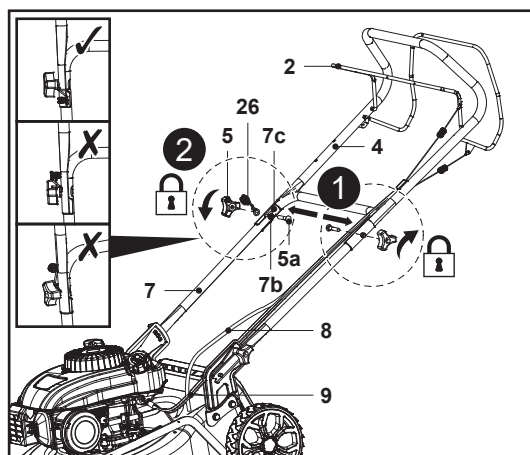

Fig. 2
1. Align the mounting holes of the upper handle bar (4), the sleeve (7c) and the lower handle bar (7). Ensure that the upper handle bar (4) with the brake lever (2) facing upwards.
2. Pass one mounting bolt (M8 x 48) (5a) through the mounting holes (7b, 4a) of the lower handle bar (7), the sleeve (7c) and the upper handle bar (4) until the stop (Fig. 2, step 1), then attach the lock knob (5).
3. Attach the hook for recoil starter handle (26) on the thread of the mounting bolt (M8 x 48) (5a) on the right-hand side of the handle assembly (when viewed from operator's position), then secure the handle assembly by screwing in the lock knob (5) clockwise (Fig. 2, step 2).